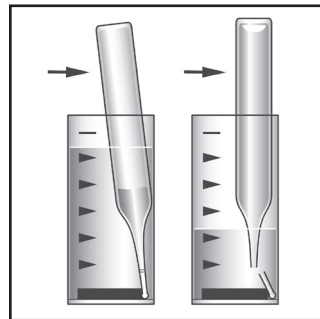

Figure 3
3. Immediately place the K-7423 Vacu-vial ampoule, tip first, into the sample cup. Snap the tip. The ampoule will fill leaving a bubble for mixing (fig. 3).